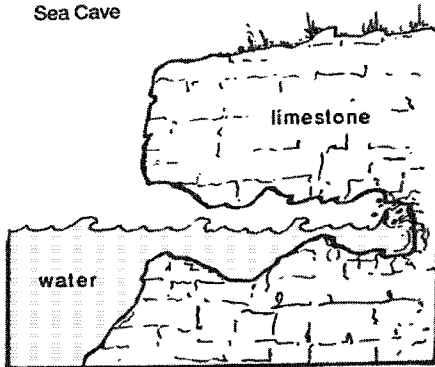

Figure 2.
- Sea caves (Figure 2, facing page.)